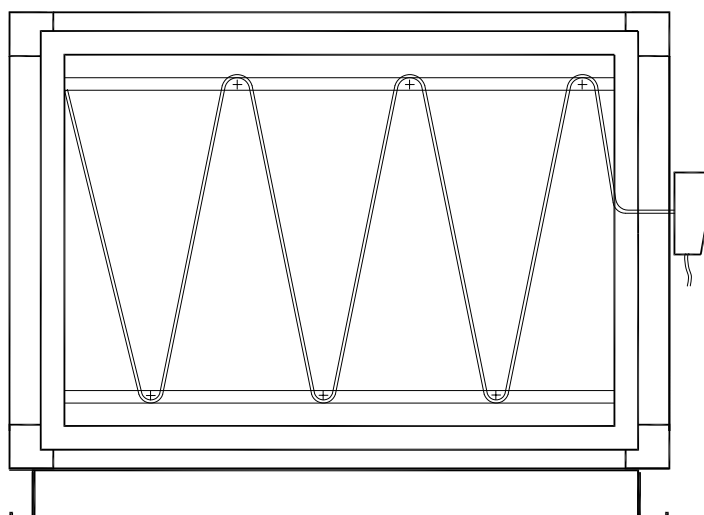

Figure 18
- The protection of the heater against freezing consists of an air flow thermostat with a capillare installed in a separate section on the “warm” side of heater. The capillare and thermostat are fixed onto a removable frame (Figure 18).